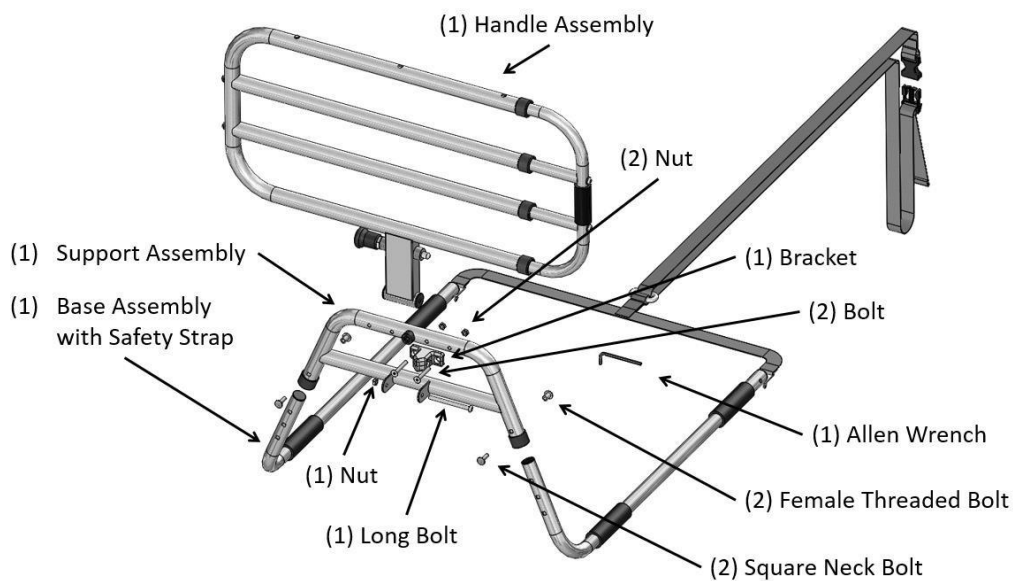

FIGURE 1
1. Remove all components from the box and verify all parts are included as shown in Figure 1.